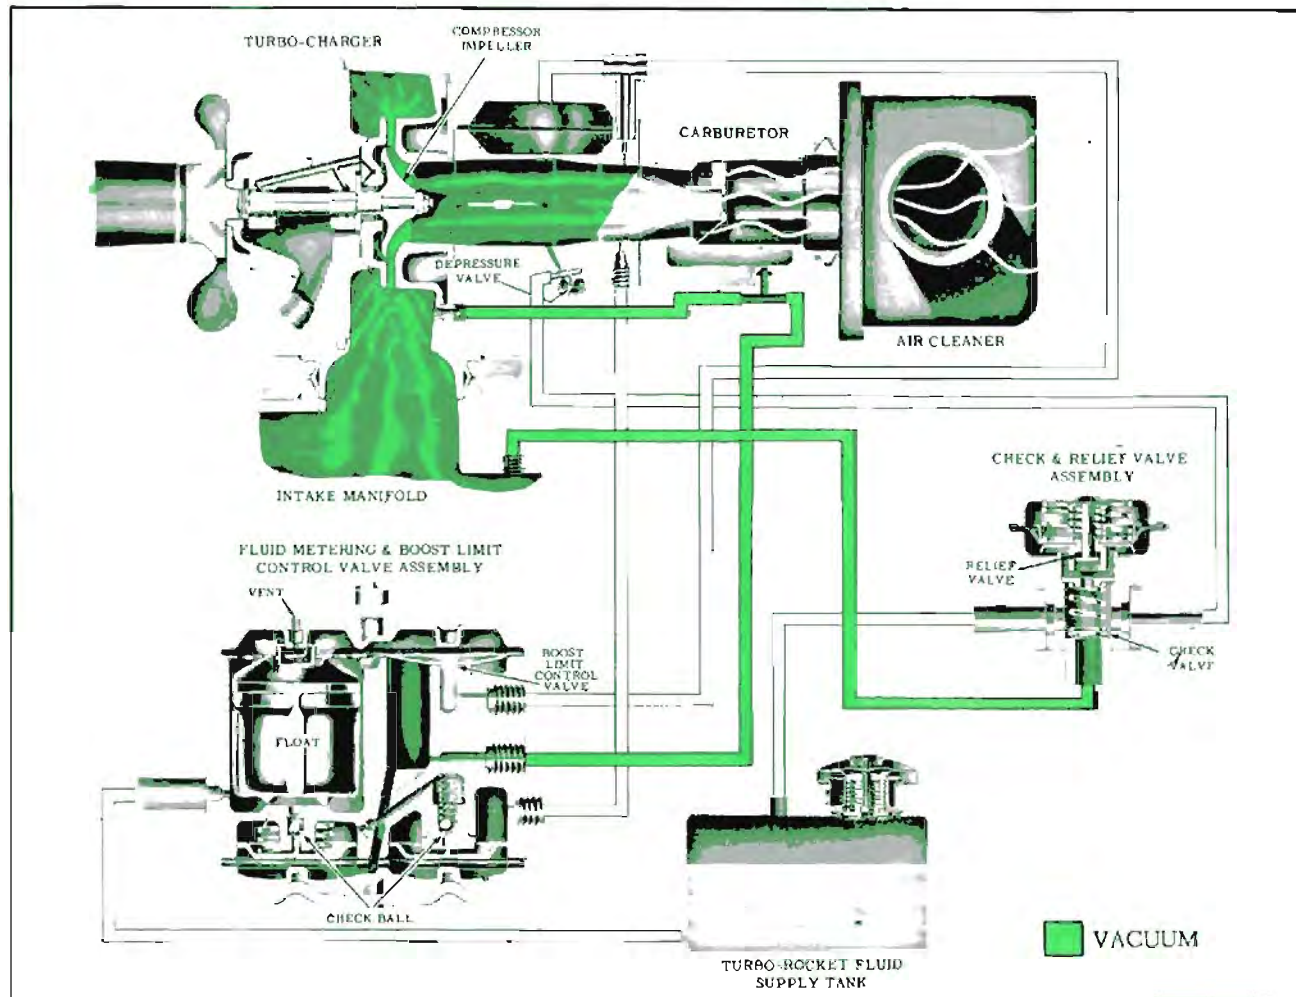

Fig. 9-108 Normal Operation (No Boost)
**ENGINE RUNNING (NORMAL—NO BOOST) (Fig. 9-108)**